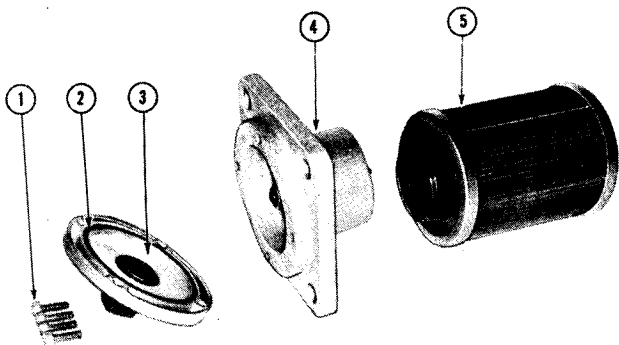

Figure 4-54
Screw a new strainer element (5, Fig. 4-54) into valve assembly (4). Position a new "O"-ring (2) in flange (3) and attach flange to valve assembly with cap screws (1) and lock washers. Tighten cap screws to recommended torque (refer to "SPECIAL TORQUES").